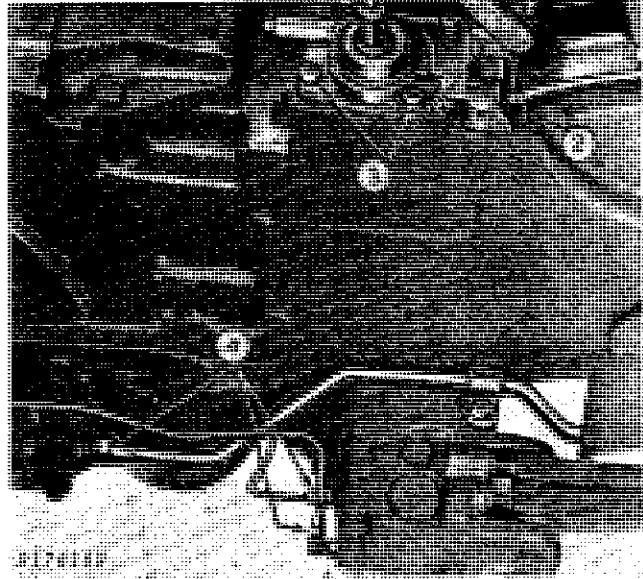

Fig. 5-Right-Hand Separation Procedures
2. Disconnect hydraulic oil reservoir vent hose (Fig. 5). Disconnect mid couplers (if equipped).